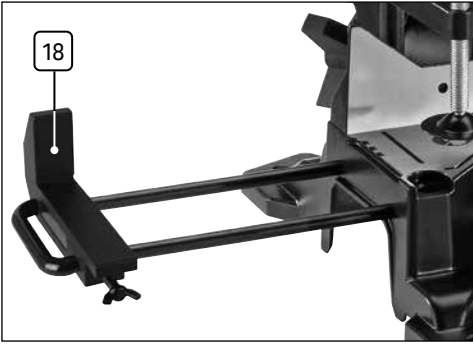

Fig. 4
6.5 Extending Workpiece Support Wings (Stock No.90170) – Fig.4